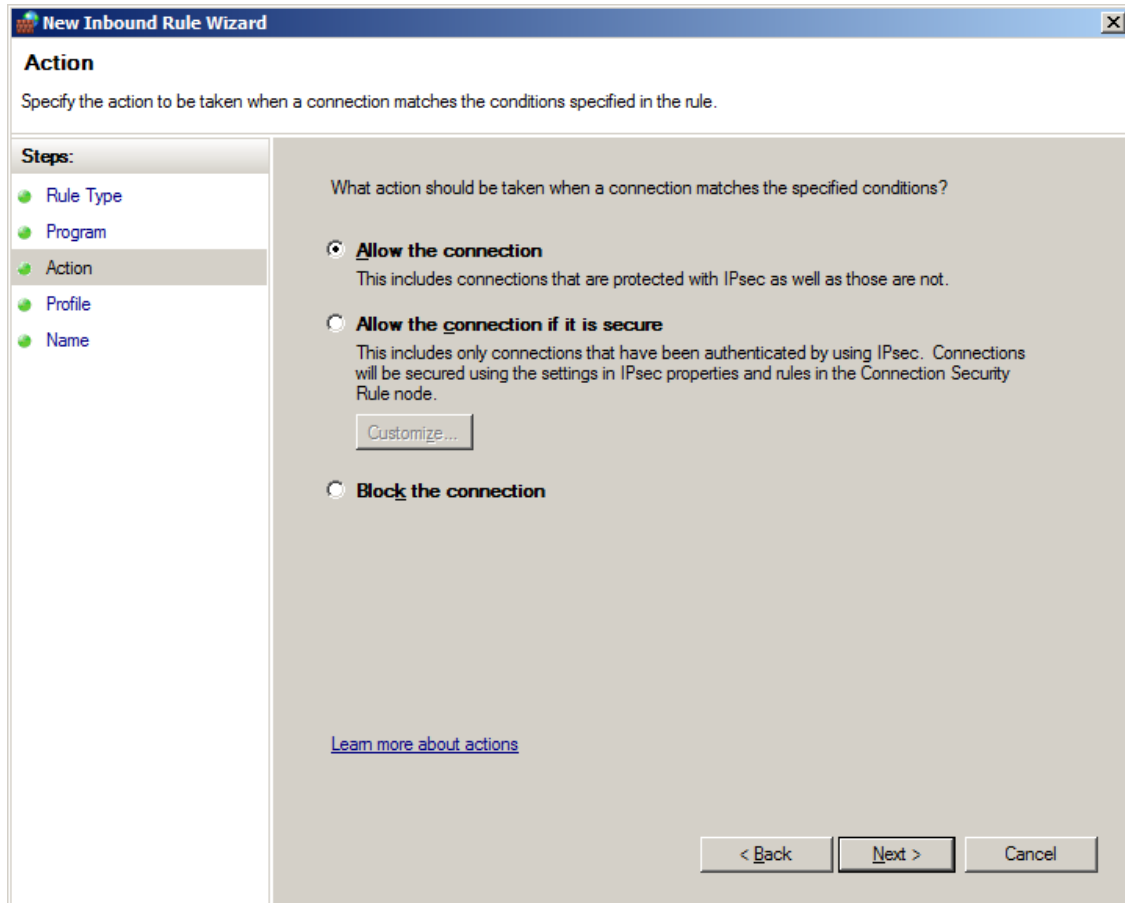

Figure 2-58. Allowing the Connection
3. On the Action page of the New Inbound Rule Wizard, click **Allow the Connection**. Then click **Next**. This is the same as *Figure 2-58*.